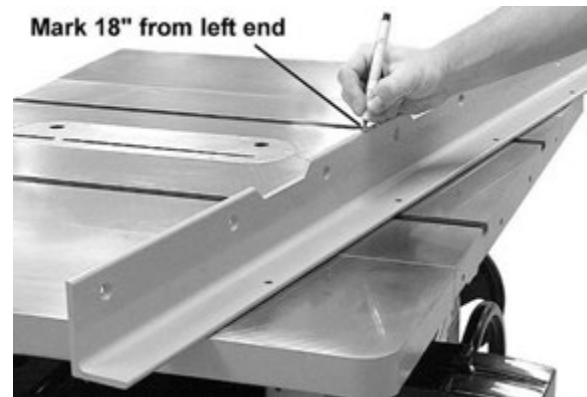

Figure 7-1
2. Place a mark 18" from left end of front rail (Figure 7-1). This mark will be lined up with saw blade.